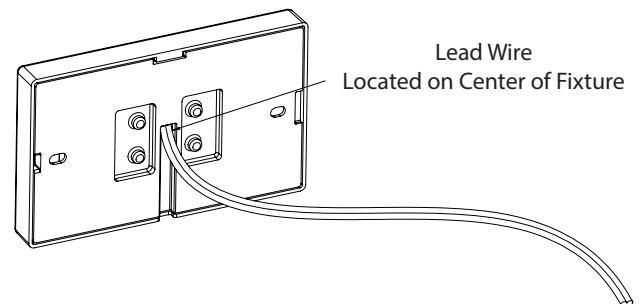

FIG. 6
4. Install plastic wall anchors for brick, block, stone or concrete at location of two mounting holes (**Fig.6**). (This is not required for wood applications.) Secure fixture light engine assembly to wall or step.